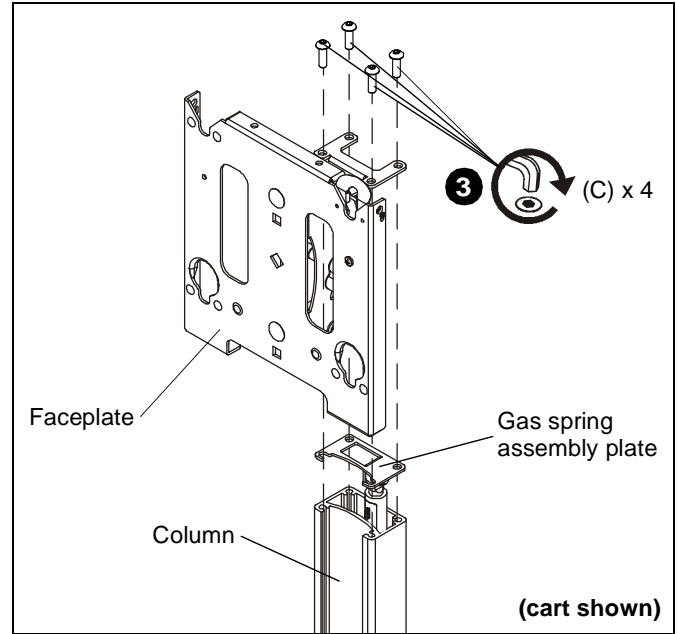

Figure 14
3. Fasten through faceplate and gas spring assembly plate using four 5/16-18 x 1" button head cap screws (C). (See Figure 14)